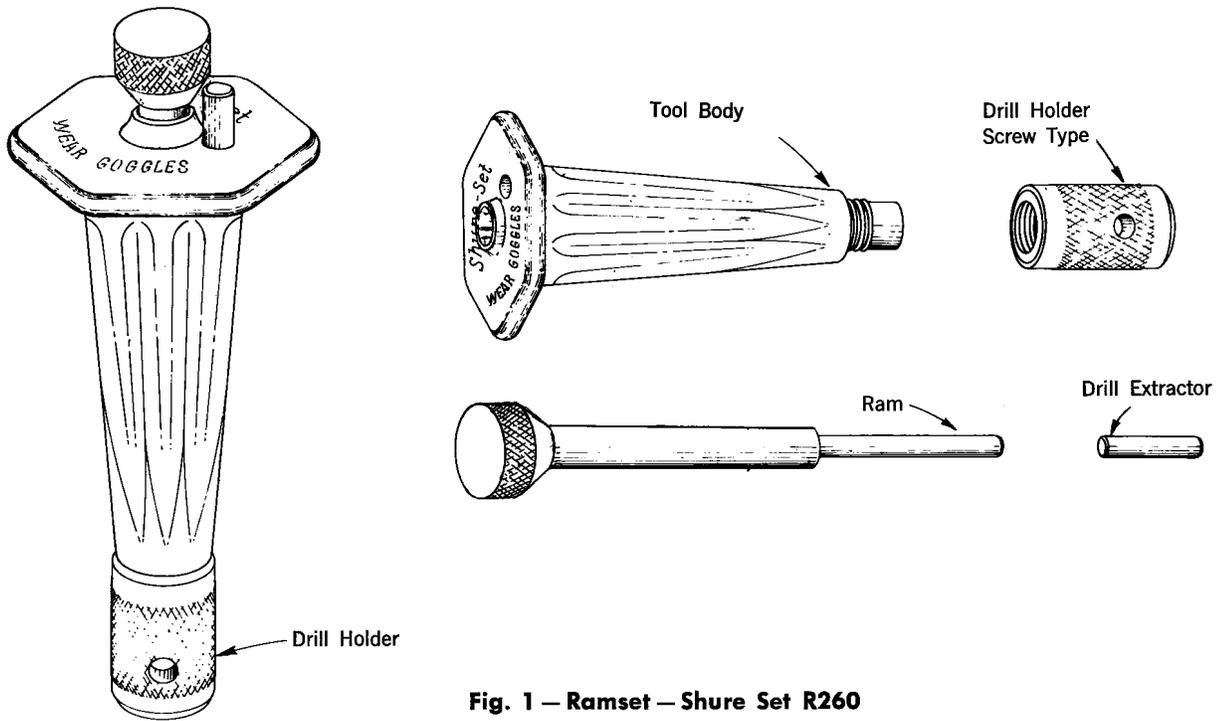

Fig. 1 — Ramset — Shure Set R260
2.01 Figs. 1, 2, 3 and 4 show the various commercial tools and their component parts. Satisfaction with hand-operated drive tools is dependent upon proper usage.